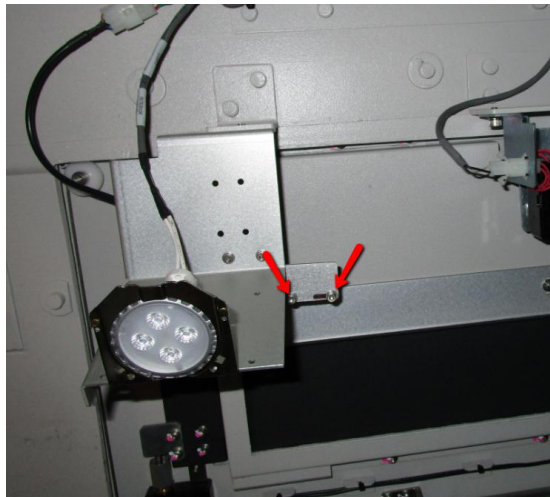

Figure 1 Left PCL Sensor
- A. Loosen 2 x Screws at Left PCL Sensor (Figure 1) and align accordingly by refer to Table 1 & Table 3.